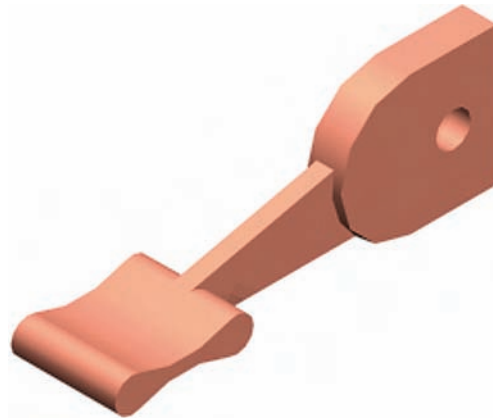

Fig. 19.24 Third example of 3D models
Third example (Fig. 19.24)
4. **SW Isometric**. Render (Fig. 19.24).